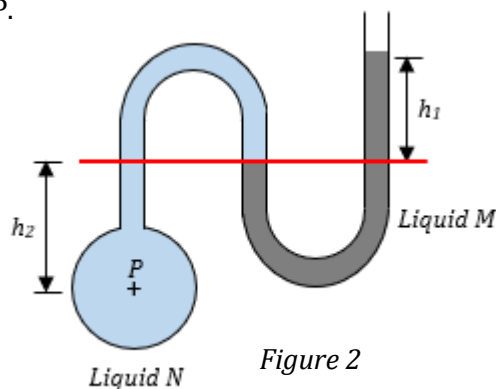

Figure 2
- Figure 2, shown a pressure system. Liquid M has specific gravity as 1.20 and with liquid N has specific gravity as 0.86. If the distance $h_1 = 150 \text{ mm}$ and $h_2 = 350 \text{ mm}$. Calculated the pressure in the pipe P.